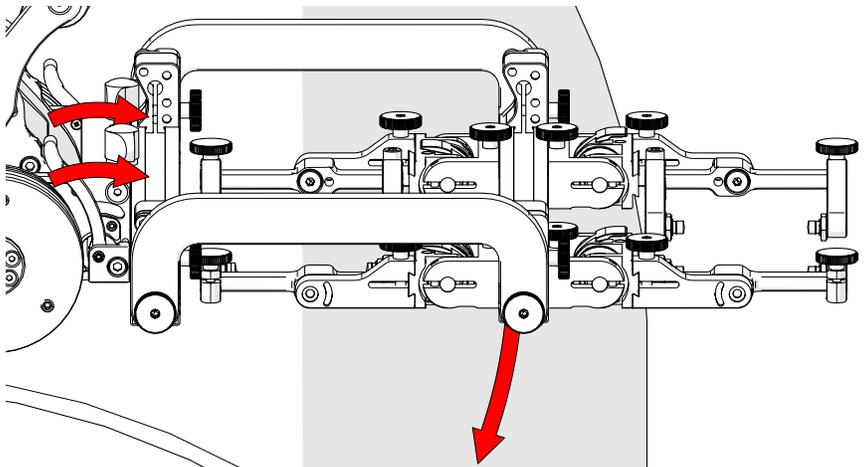
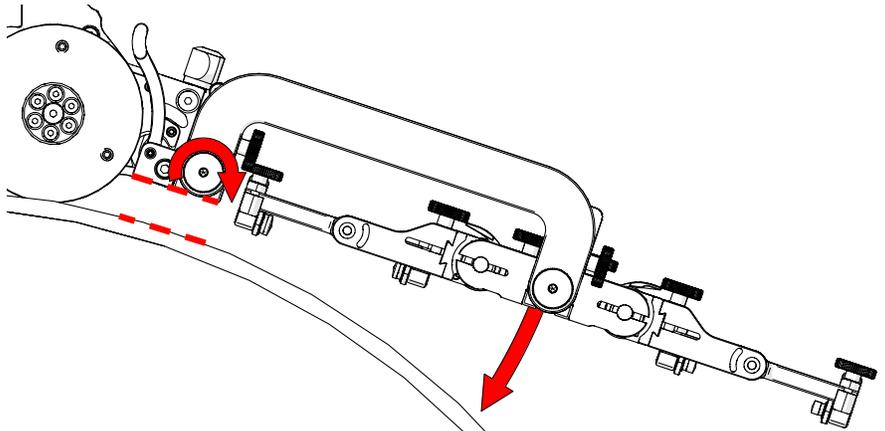

Fig. 173 - Align swivel mount with scan surface
Fig. 174 - Set rear rotational adjustment knob
4. Release the two swivel mount levers (Fig. 173) to position the swivel mount parallel to the scan surface (Fig. 174). When alignment with scan surface is achieved, lock the crawler swivel mount levers.
5. Loosen the rear rotational adjustment knob to lower the front frame bar of the low profile frame towards the inspection surface (*Fig. 174*).